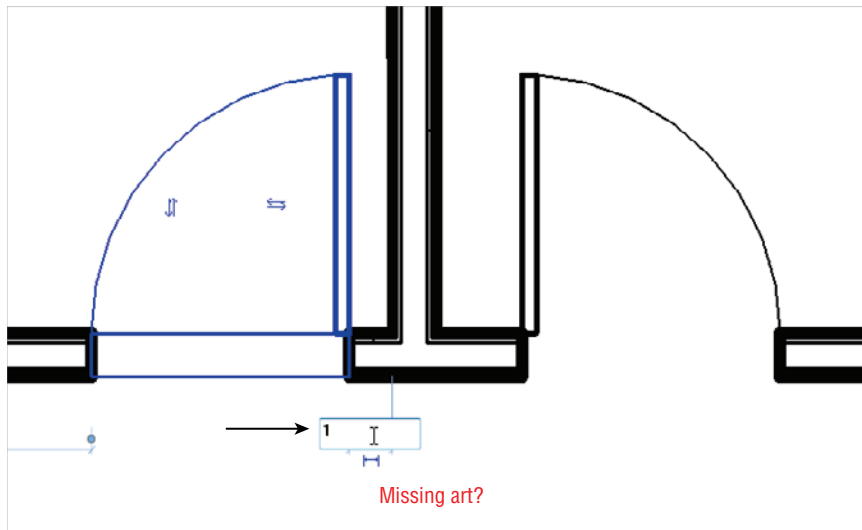

FIGURE 5.40 Making adjustments with the actual dimension
4. Select the door shown in Figure 5.40. Notice that the dimension turns small and blue. It is now ready to be modified.